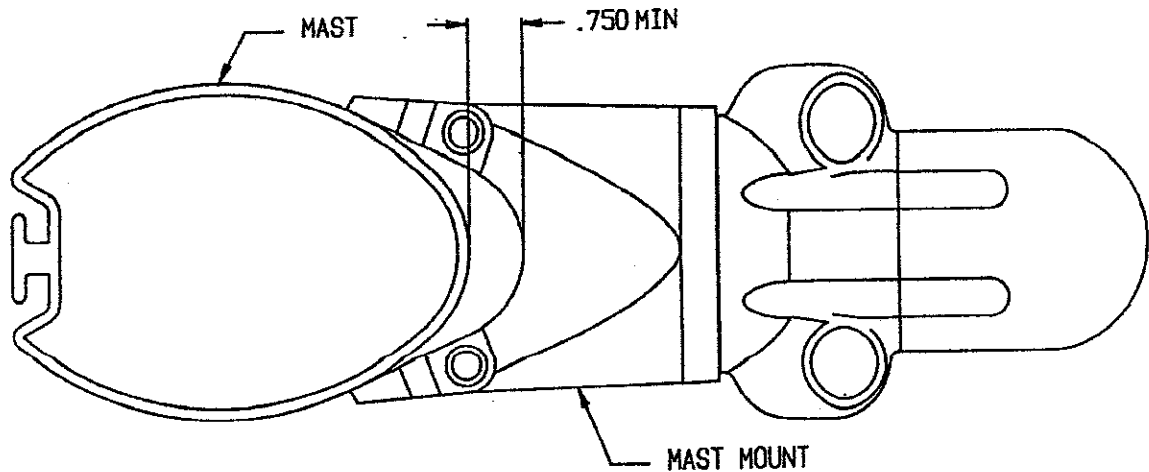

FIGURE 2
- 1) Hold mounting brackets against mast with a space of $\frac{3}{4}$ " between the mast and the Q-mount. Position Q-mount straight fore and aft and horizontal (adjust angle for mast rake if necessary). SEE FIGURE 2